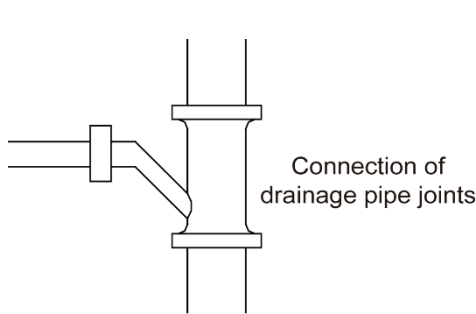

Fig14
- Connection of drainage pipe joints (Fig14)